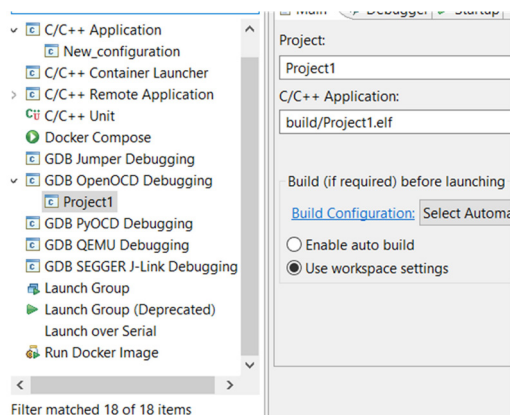

Figure A.2 Select Project 1
- Click **GDB OpenOCD Debugging** and select **Project 1** (Figure A.2)